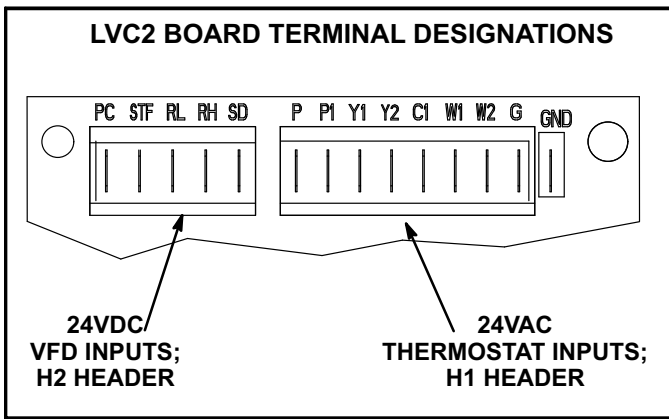

FIGURE 41
- 3- Check for 24VAC signal at the thermostat blower input (G to GND terminal). See figure 41.